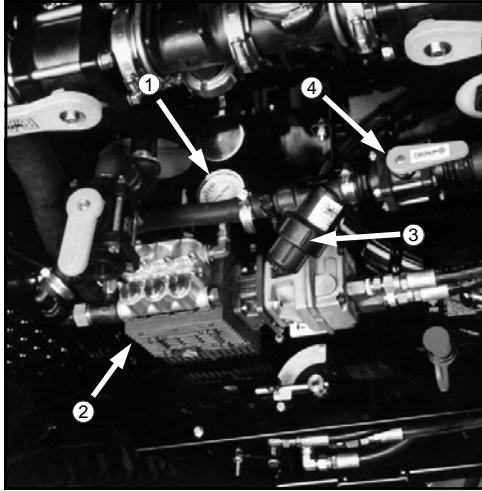
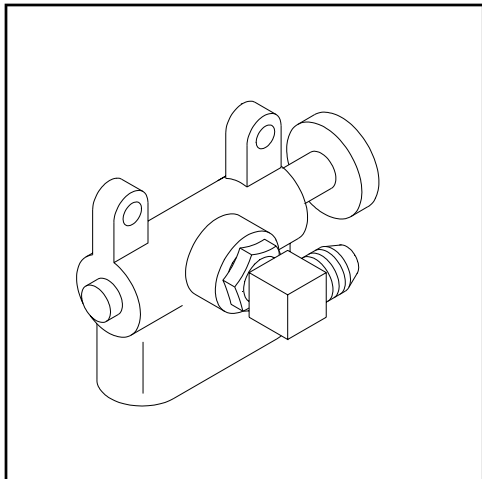

FIG 5.52
FIG 5.53
OPERATING – To operate the pressure washing system, leave the engine running between 1000 and 1200 RPM. Turn the parking brake on (see page 30). The rinse supply valve for the pressure washer (fig. 5.52, item 4) may remain open unless operating the solution tank rinse system. Close it before you activate the rinse system (see page 53). Activate the pressure washing pump (fig. 5.52, item 2) with hydraulic valve (fig. 5.53) mounted next to the hydraulic gear pumps.
Spray pressure is indicated by the gauge mounted above the pressure pump (fig. 5.52, item 1).
MAINTENANCE – Remove and inspect in-line filter (fig. 5.52, item 3) occasionally and clean it as required.